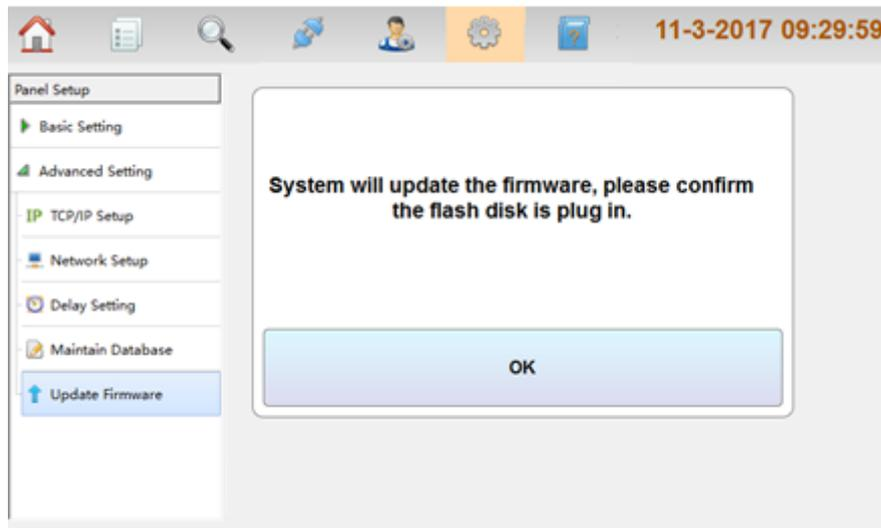

Fig. 5-9
- Update Firmware: Clicking **Update Firmware** in **Advanced Setting** menu and entering the super password (obtained from the maintenance service supplier), users can update firmware as shown in Fig.5-9, then insert U-Key into the LCD drive board and click **OK** to update firmware.
Clicking **Computer** in Fig.5-9 pops up the screen as shown in Fig.5-12. At this time, the configurations and definitions can be downloaded to the repeater from GST-IFPx-Def Software.